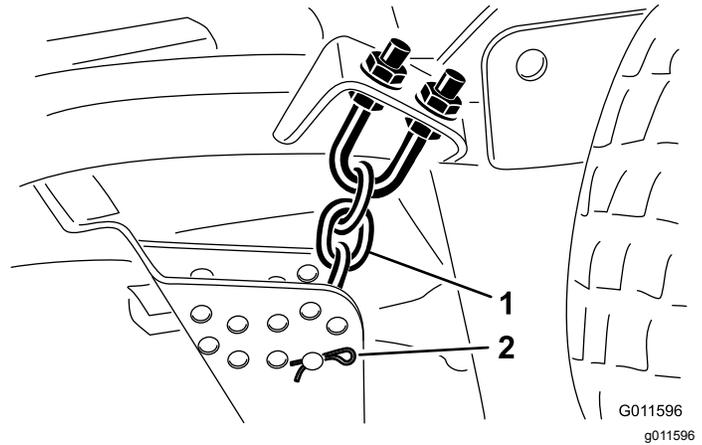

Figure 24
5. Remove the tensioning cap from the spindle shaft and slide the spindle out of the caster arm (Figure 24).
9. Remove the hairpin cotter and clevis pin securing the height-of-cut chains to the rear of the mower deck (Figure 24).